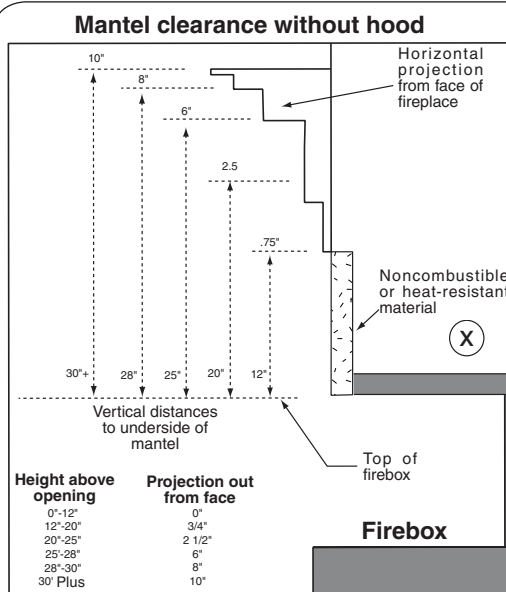
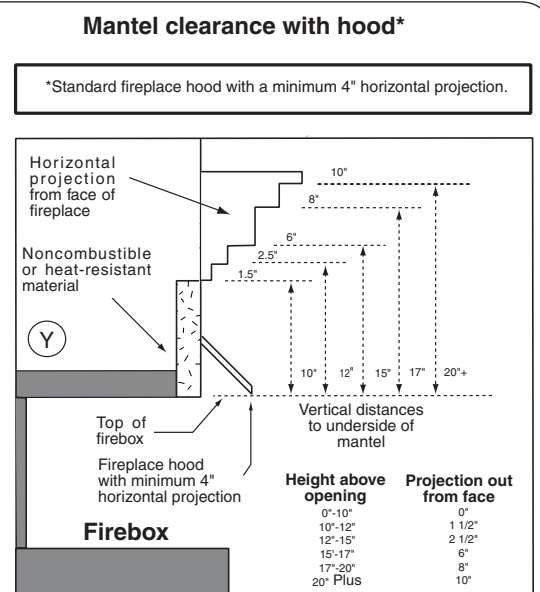

Fig. 10-2
Fig. 10-3
Mantel: (see Figs. 10-2, 10-3, and paragraph A below)
To install the unvented gas log set, there must **ALWAYS** be noncombustible or heat-resistant material immediately above the fireplace opening. Heat-resistant materials (i.e., marble or slate) must be at least  $\frac{5}{8}$ " thick. Sheet metal should not be installed onto combustible materials. If you **DO NOT** install a fireplace hood, there **MUST** be at least **12"** of noncombustible or heat-resistant material immediately above the fireplace opening (see X in Fig. 10-2 below). If you **DO** install a fireplace hood, there **MUST** be at least **10"** of noncombustible or heat-resistant material immediately above the fireplace opening (see Y in Fig. 10-3 below). If there is a wooden mantel, shelf, or other combustible projection above the fireplace, follow the information in Fig. 10-2 or Fig. 10-3 below.
1. If a fireplace hood is not installed - 2.5" (see Fig. 10-2).
2. If a fireplace hood is installed - 10" (see Fig. 10-3).